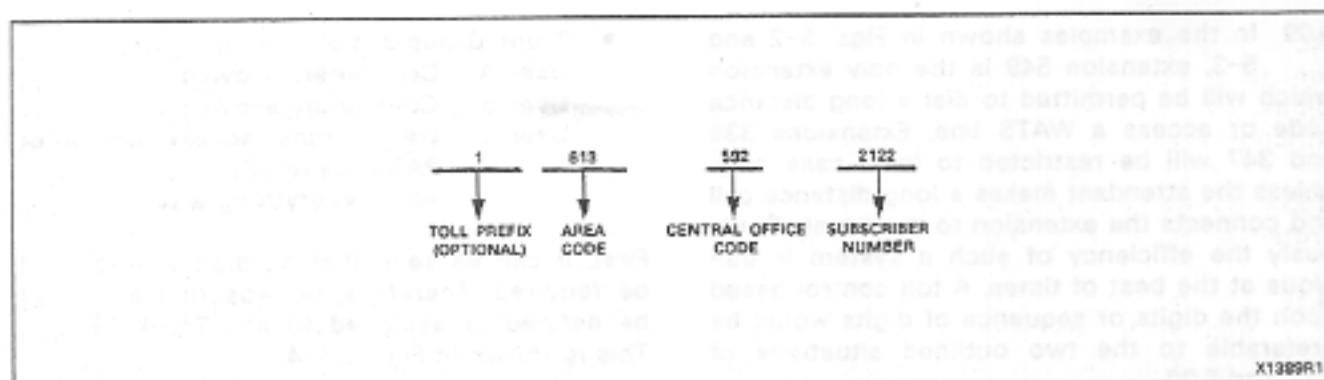

Fig. 5-1 North American Plan
5.01 Almost every subscriber in the North American telephone system may access any other subscriber by dialing a maximum of ten or eleven digits. These digits consist of an optional toll prefix number (usually 1), a 3-digit area code, a 3-digit Central Office code and a 4-digit subscriber number (Fig. 5-1).